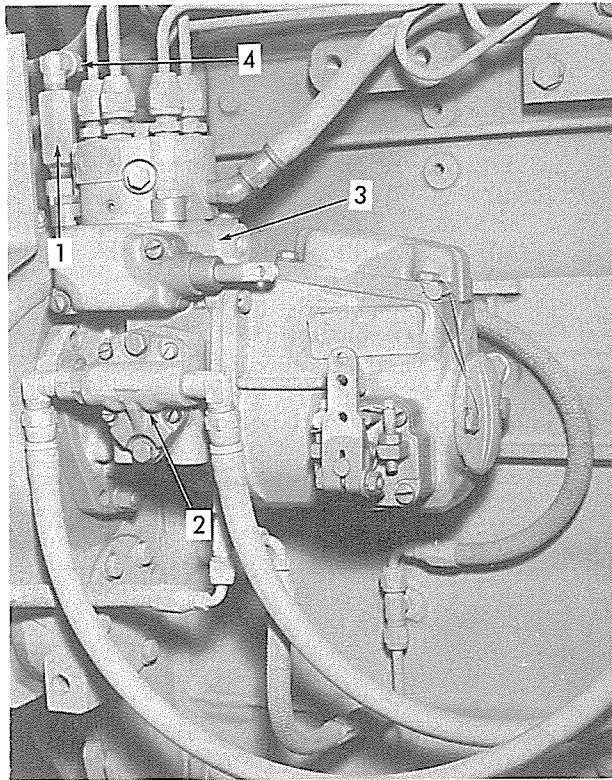

Fig. 3 — Typical Fuel Injection Pump Installation (T-71409)
D. INOPERATIVE FUEL PRESSURE RELIEF VALVE OR FUEL TRANSFER PUMP (Fig. 3)